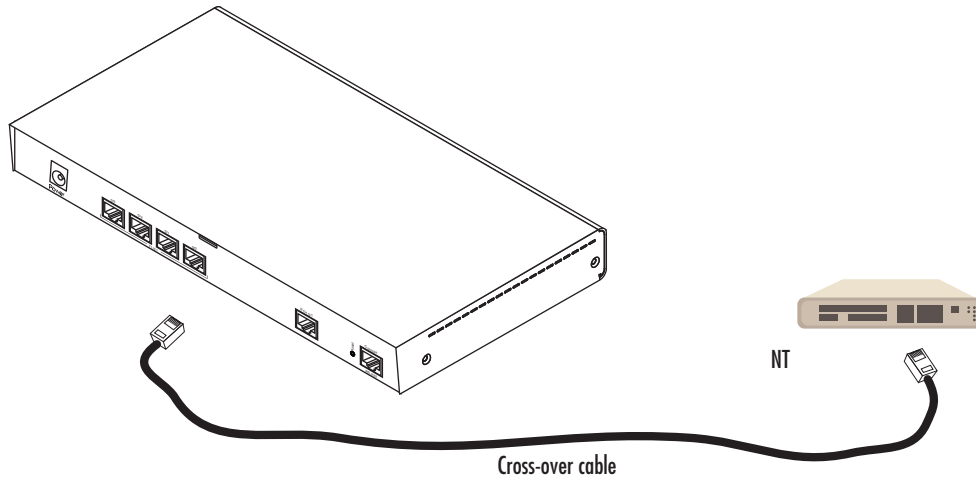

Figure 1. Connecting an E1/T1 PRI port to an NT device
The E1/T1 PRI is usually connected to a PBX or switch—local exchange (LE). Type and pin outs of these devices vary depending on the manufacturer. In most cases, a straight-through RJ-45 to RJ-45 can be used to connect the PRI with a PBX. A cross-over cable is required to connect to an NT device, as illustrated in figure 1 on page 15.